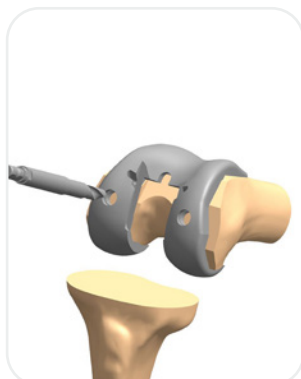

Figure 42
4. For Cruciate Retaining femorals, prepare the femoral lug holes through the femoral trial with the Femoral Lug Drill (**Figure 42**).